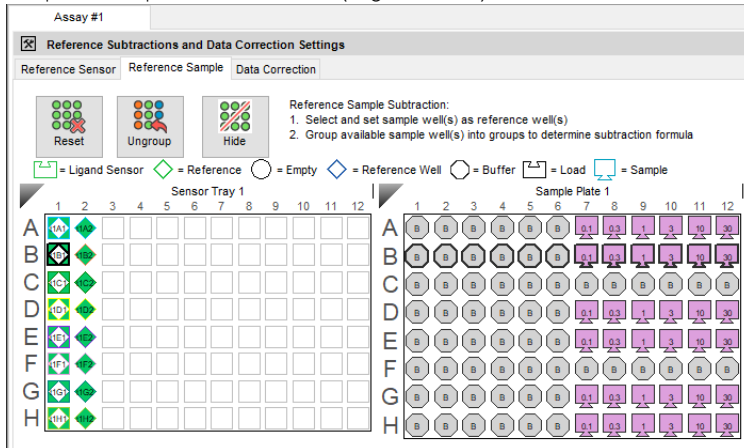

Figure 4-37: Biosensors and Associate Sample Wells Highlighted
- Selecting columns, rows or wells in the biosensor tray map also highlights the associated wells in the sample plate map and vice-versa (Figure 4-37).